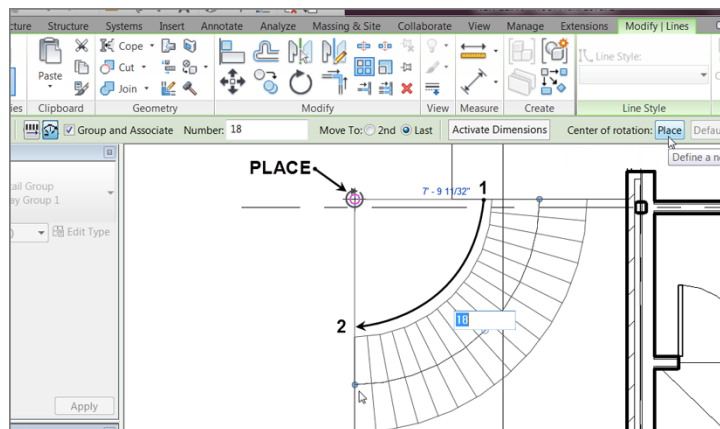

FIGURE 10.41: Arraying the line to create your own treads
3. Select the line at the left end of the arcs, as shown in Figure 10.41.